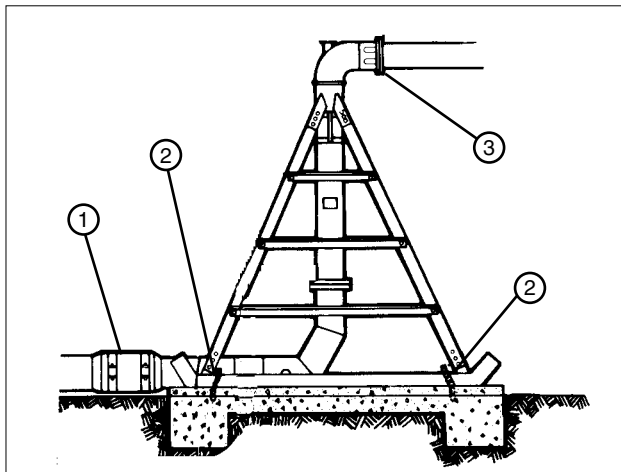

Figure 30-2 1. Water Supply Line
3. Disconnect the water supply line from lower riser. See figure 30-2.
4. Remove anchor chains securing skid pivot to pivot pad. See figure 30-2.